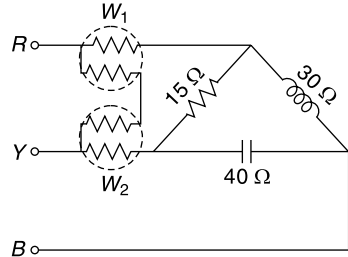

Fig. 14.97
14.127 Determine the readings in each wattmeter in the circuit shown in Fig. 14.97 when the network is connected to 440 V, 50 Hz supply.